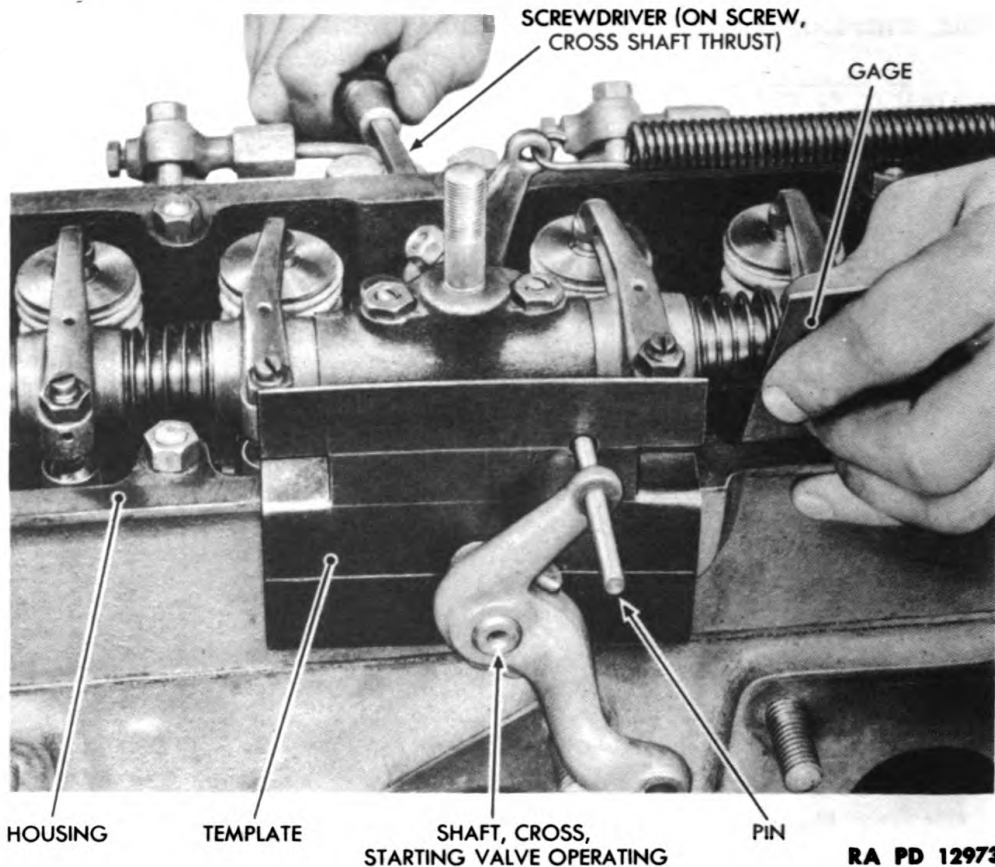

Figure 179—Adjusting Starting Valve Clearance
(2) INSTALL TEMPLATE OVER OPERATING CROSS SHAFT (fig. 179).
(3) CHECK CLEARANCE BETWEEN EACH STARTING VALVE SHAFT ROLLER AND STARTING VALVE (fig. 179).
(4) ADJUST VALVE CLEARANCE (fig. 179).
(5) CHECK CLEARANCE BETWEEN REMAINING ROLLERS AND VALVES (fig. 179).